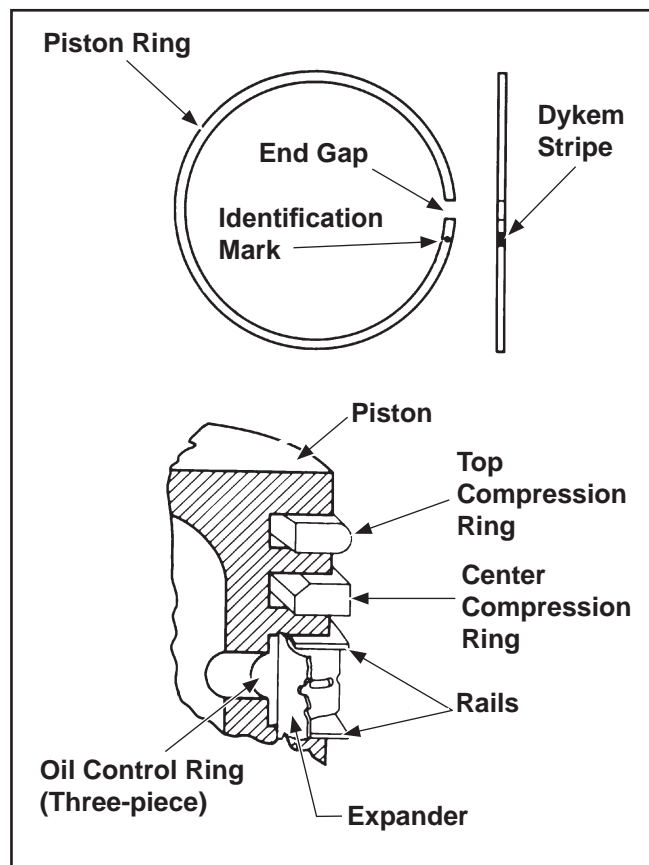

Figure 9-11. Piston Ring Installation.
**NOTE:** Rings must be installed correctly. Ring installation instructions are usually included with new ring sets. Follow instructions carefully. Use a piston ring expander to install rings (see Figure 9-10). Install the bottom (oil control) ring first and the top compression ring last. Refer to Figure 9-11.